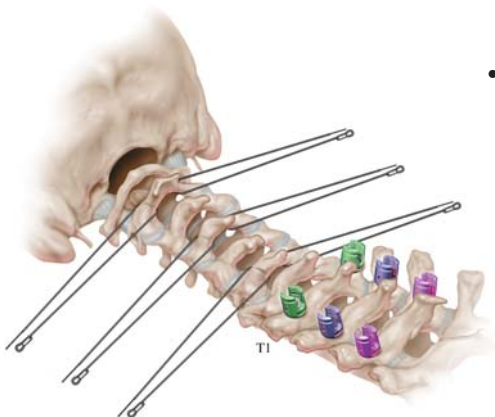

Figure 8c
- In the same manner, pass cables at all remaining cervical levels (Figure 8c).